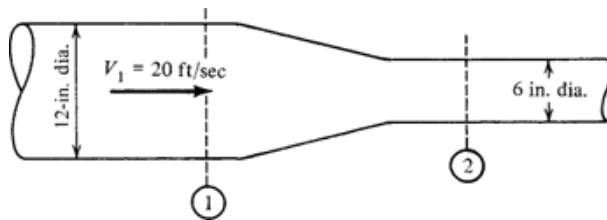

Figure P3.18
- 3.18** 3.18. Seawater ($\rho = 64 \text{ lbm/ft}^3$) flows through the reducer shown in Figure P3.18 with $p_1 = 50 \text{ psig}$. The flow losses between the two sections amount to $b_l = 5.0 \text{ ft-lbf/lbm}$.